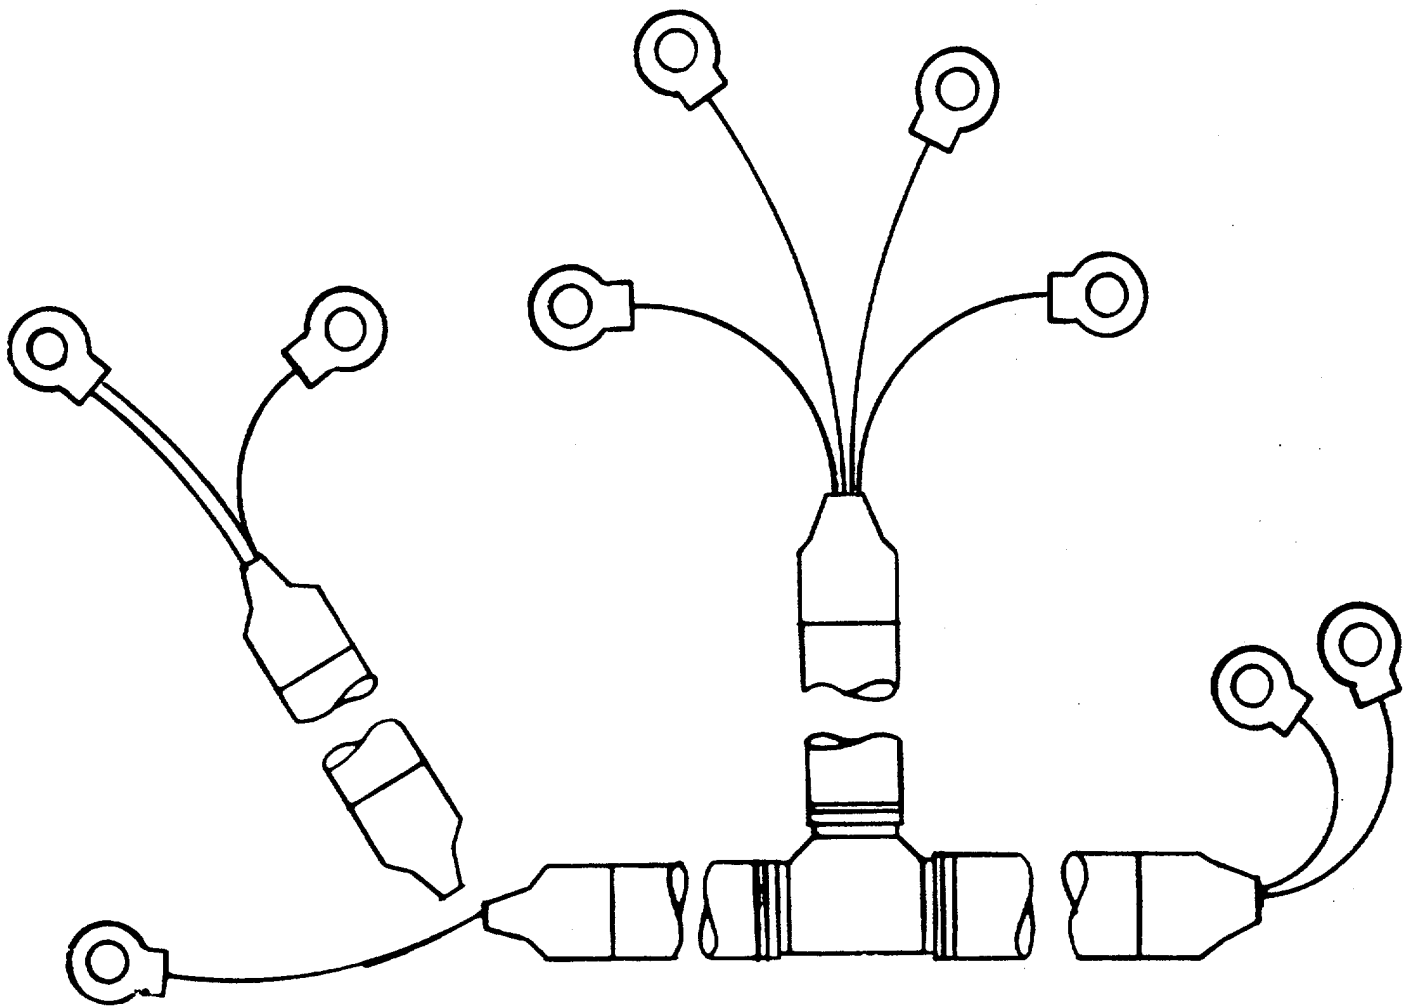

Figure 5-25. Electrical Wiring Assembly
**REPLACEMENT**      (Figure 5-25.)